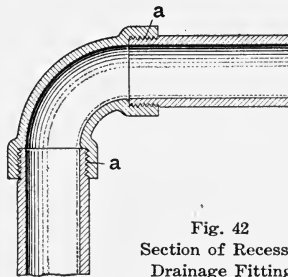
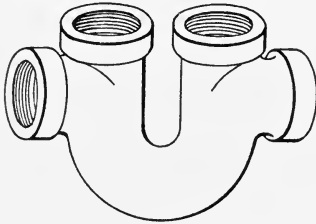
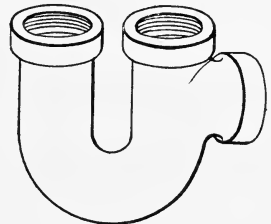
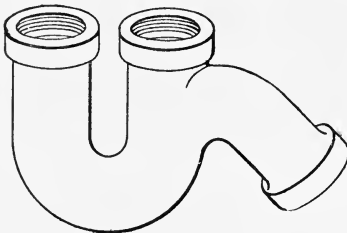

Fig. 42
Fig. 43
Fig. 44
Fig. 45
**T**YPES of Drainage Fittings.—The distinguishing feature of drainage fittings that makes them particularly suitable for drainage work is the recess in the hubs in which the female threads are tapped. This recess, which is shown at *a a* in Fig. 42, is made of just sufficient depth so that when a pipe is screwed into a fitting the inside of the pipe will finish flush with the inside of the fitting. Drainage fittings may be divided into three groups: traps, branches and bends. Fittings of the first group are shown in illustrations from Fig. 43 to Fig. 45 inclusive.
**Recessed Drainage Traps.**—The fitting Fig. 43 is a running trap and may be used as a main-drain trap, or as a leader, yard or area drain trap. The fitting Fig. 44 is a half-S trap with an outlet for back venting. It is used as a fixture trap,
generally for a closet or slop sink. Fig. 45 is a three-quarter S trap, and is used like the half S trap in connection with fixtures.